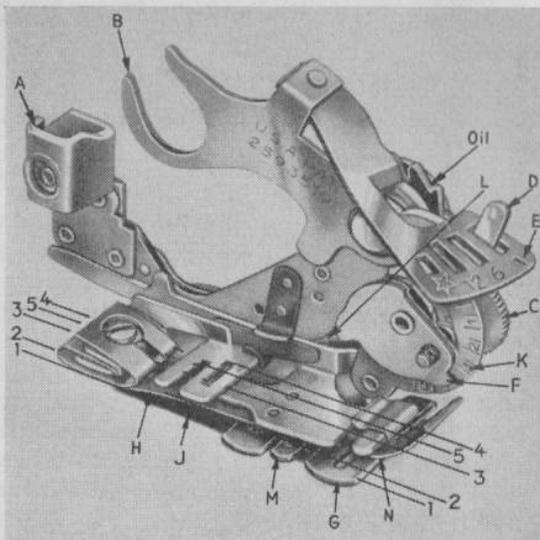

FIG. 48
*a. Attaching the ruffler:* Turn handwheel toward you until needle is at highest position. Remove presser foot and also presser foot thumb screw. Slip fork arm "B" of ruffler (fig. 48) over needle set screw (11) extending from the needle clamp (12) to the right. See fig. 1. At the same time enter foot "A" on presser bar. Reinsert presser foot thumb screw and tighten. Ascertain that starting position knob is set at the "central" position and that zig-zag regulating knob is turned to "0". Carefully turn handwheel and check if needle passes through center of needle hole in ruffler foot.